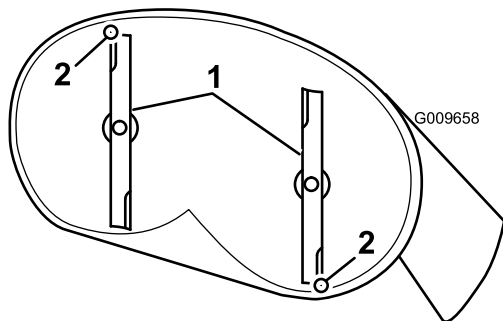

Figure 55
- Carefully rotate the blades so they are facing front to rear (Figure 55).
- Measure from the tip of the front blade to the flat surface, and the tip of the rear blade to the flat surface (Figure 55).
- After adjustment, check the front-to-rear slope again, continue adjusting the nut until the front blade tip is 1.6 to 7.9 mm (1/16 to 5/16 inch) lower than the rear blade tip (Figure 55).